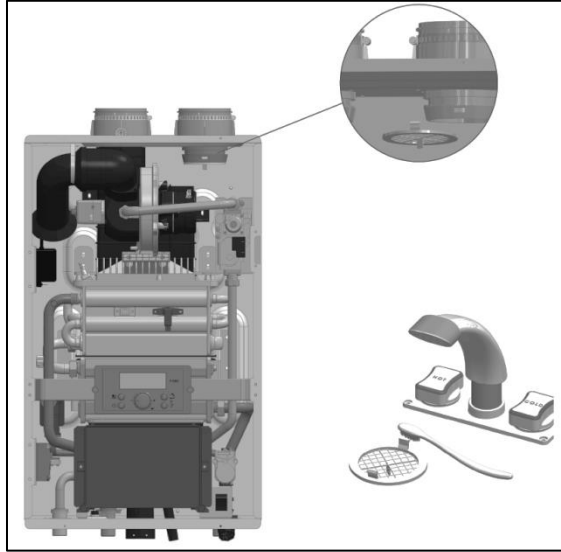

Figure 1 – Cleaning the Air Intake Filter
6. Remove the filter from the plastic assembly and clean it with a toothbrush and clean running water. See Figure 1.